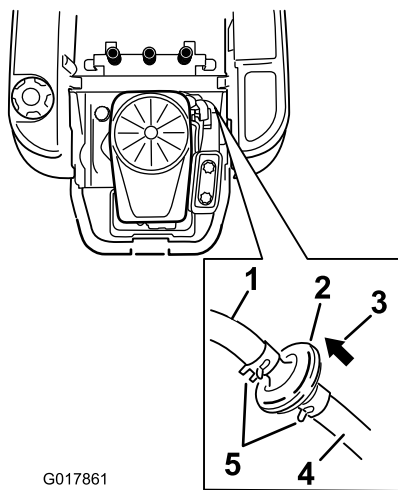

Figure 34
3. Raise the seat and locate the fuel filters as shown in Figure 34.
6. Install a new filter with the flow direction arrow coming from the fuel tank and pointing to the engine. Move the hose clamps close to the filter (Figure 34) to secure it in place.
4. Squeeze the ends of the hose clamps together and slide them away from the filter (Figure 34).